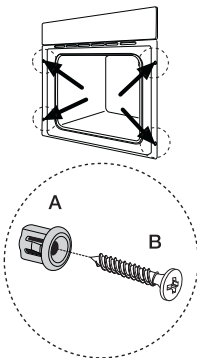

Fig. 8
2. Fasten the oven to the cabinet placing the four distance holders provided (Fig. 8 - A) which fit exactly into the holes in the frame and then fit four wood screws (Fig. 8 - B).